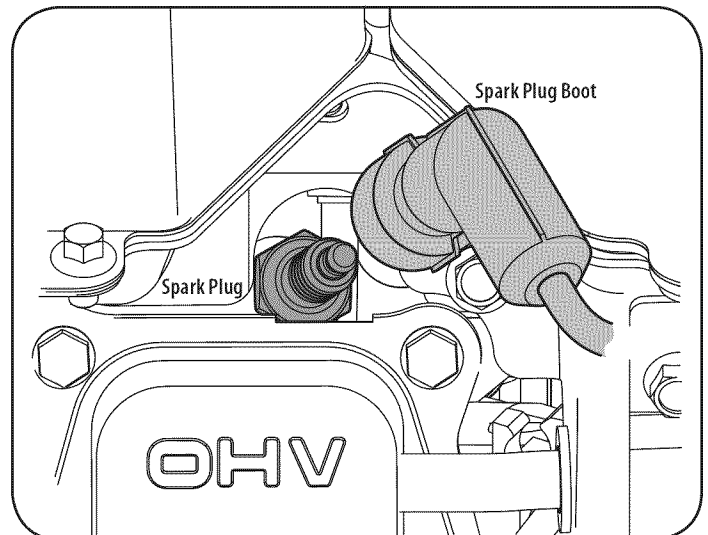

Figure 20
1. Remove the spark plug boot and use a spark plug wrench to remove the plug. See Figure 20.